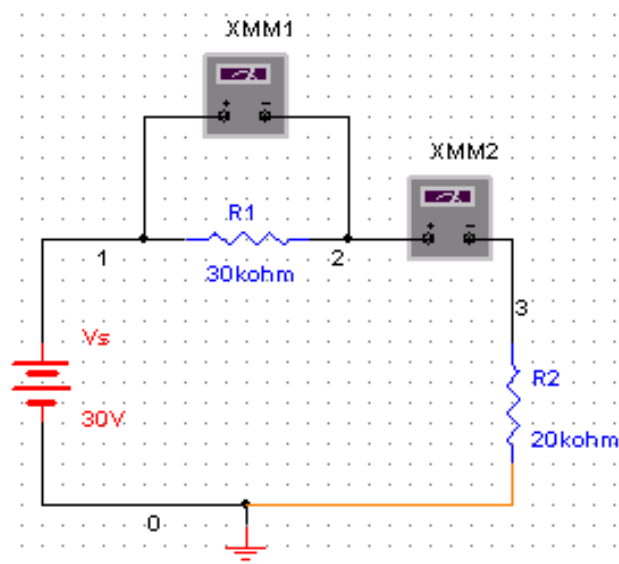

Figure 16: **Multimeter** connection for current measurement
1. Place a second **Multimeter** in the workspace as we did in Step C. Remove the connection between  $R_1$  and  $R_2$ . Connect the '+' terminal of the **Multimeter** towards  $R_1$  and the '-' terminal towards  $R_2$  as shown in Fig. 16.